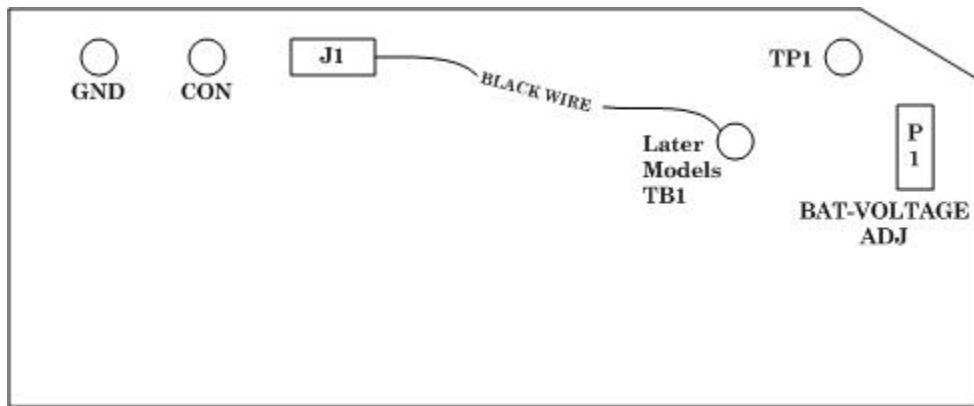
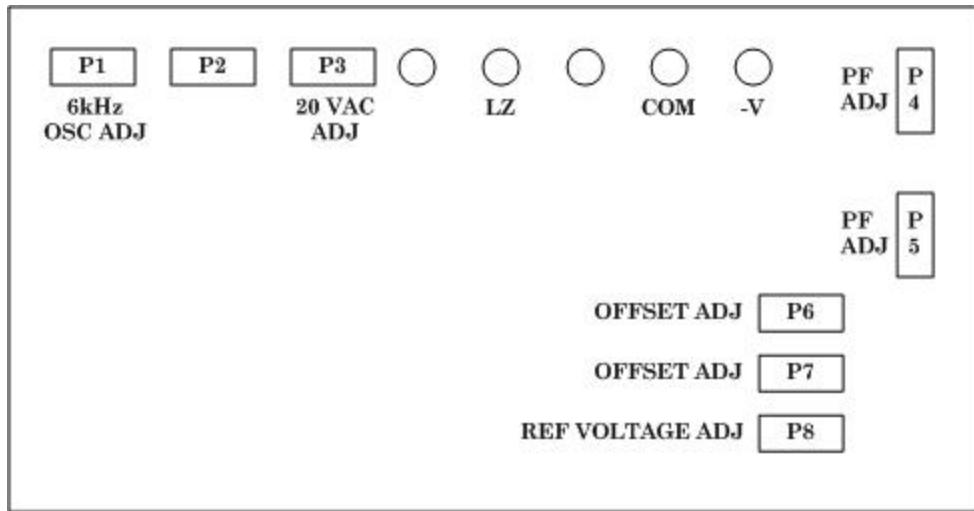

Figure 1. PCB2 Board adjustments.
Figure 2. PCB1 board adjustments.
- (1) Adjust DC power supply for a 6.8 Vdc indication on multimeter.
- (2) Adjust P1 and PCB2 board (fig. 1) until the LO-BAT legend just starts to appear on TI digital indicator.
- (1) Position TI controls as listed in (a) through (d) below.
- (2) Using an X10 attenuator, connect frequency counter to TI LZ (+) and COM (-) on PCB1 board (fig. 2).
- (3) Set DC power supply and TI power to **ON**.
- (4) Depress and hold TI **PRESS TO READ CAP(pF)** pushbutton. Frequency counter will indicate 6 kHz ± 50Hz. If not, perform b (1) below. Release TI **PRESS TO READ CAP(pF)** pushbutton.
- (5) Set TI **ON/OFF** switch to **OFF**.
- (6) Set DC power supply to **OFF**.
- (7) Disconnect frequency counter from set-up.
- (8) Connect multimeter to TI L-Z (+) and COM (-) on PCB1 board (fig. 2).
- (9) Set DC power supply to **ON** and TI **ON/OFF** switch to **ON**.
- (10) Depress and hold TI **PRESS TO READ CAP(pF)** pushbutton. Multimeter will indicate between 19.7 and 20.3 Vac. If not, perform b (2) below. Release TI **PRESS TO READ CAP(pF)** pushbutton.
- (11) Set test equipment power to off. Disconnect multimeter from set-up.
- (1) Depress and hold TI **PRESS TO READ CAP(pF)** pushbutton and adjust P1 on PCB1 board, (fig. 2), for 6 kHz on frequency counter.
- (2) Depress and hold TI **PRESS TO READ CAP(pF)** pushbutton and adjust P3 on PCB1 board, (fig. 2), for 20 Vac on multimeter.
- (1) Connect multimeter positive input to junction of R17, R18 and C20 and negative input to COM on PCB1 board (fig. 2).
- (2) Set TI and DC power supply to **ON**. Adjust P4 on PCB1 board (fig. 2) for 0 volts $\pm 0.0001V$ on multimeter.
- (3) Repeat technique of **b** (1) above with multimeter positive input connected to junction of R19 and C21 and negative input connected to COM on PCB1 board (fig. 2).
- (4) Repeat technique of **b** (2) above using adjustment P5 on PCB1 board (fig. 2) for 0 volts $\pm 0.0001V$ on multimeter.
- (1) Connect multimeter positive input to TP1 and negative input to COM on PCB2 board as shown in fig. 1. (Substitute TB1 for TP1 on some later models).
- (2) Set DC power supply to **ON**.
- (3) Set TI **ON/OFF** power switch to **ON**.
- (4) Multimeter will indicate 1.0 Vdc \pm 0.002 V. If not, perform **b** below.
- (5) Set test equipment power to off. Disconnect multimeter from TI.
- b. Adjustments.** Adjust P8 on PCB1 board (fig. 2) for 1.0 Vdc on multimeter.
- (1) Depress and hold **PRESS TO READ CAP(pF)** pushbutton and adjust P6 on PCB1 board (fig. 2) for 100pF on TI digital indicator.
- (2) Depress and hold **PRESS TO READ CAP(pF)** pushbutton and adjust P7 on PCB1 board (fig. 2) for 100pF on TI digital indicator.